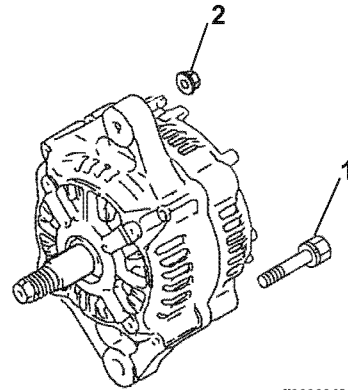

Figure 11-8
- Remove the two bolts (**Figure 11-8, (1)**) and two nuts (**Figure 11-8, (2)**) securing the rear frame housing to the front frame housing.